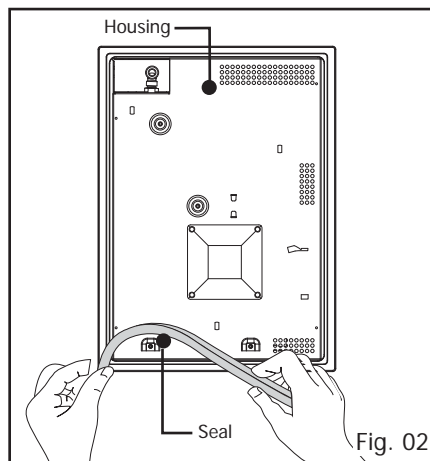

Fig. 02
Before installation of your appliance and to ensure leaktightness between the drawer unit and the work surface, make sure that you glue the seal provided in the plastic bag (Fig. 02).
• Above an empty cabinet or a drawer (Fig. 02).